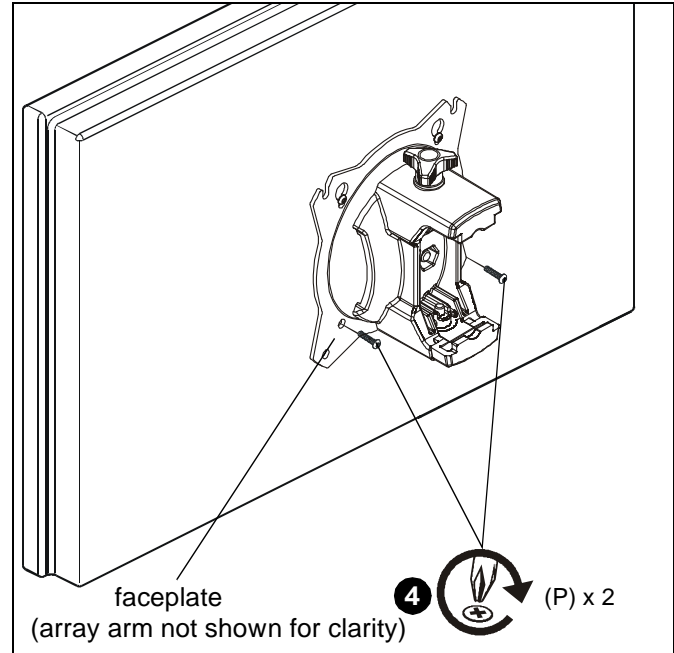

Figure 6
4. Using Phillips screwdriver, install two M4x12mm Phillips pan machine screws (P) through the *lower* mounting holes on faceplate into the display. (See Figure 6)